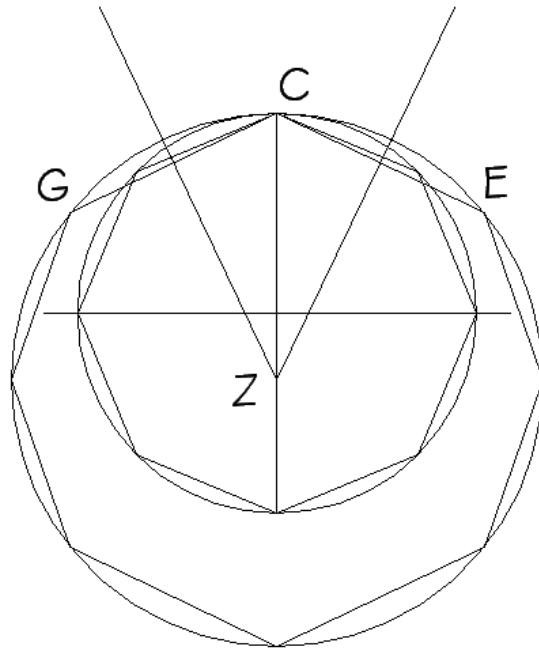

Figure 9.13
4. To construct an octagon to the specific size you have chosen, you can minimize or enlarge your octagon using the same principle we used to enlarge the pentagon in **Chapter 5**, Figures 5.8 and 5.9. Using the construction you have drawn above, extend any two connecting lines (or lines forming an angle) GC, CE, to the length of your choice, and then construct perpendiculars at their midpoints, which will intersect at a new center point, Z. See **Figure 9.13**.